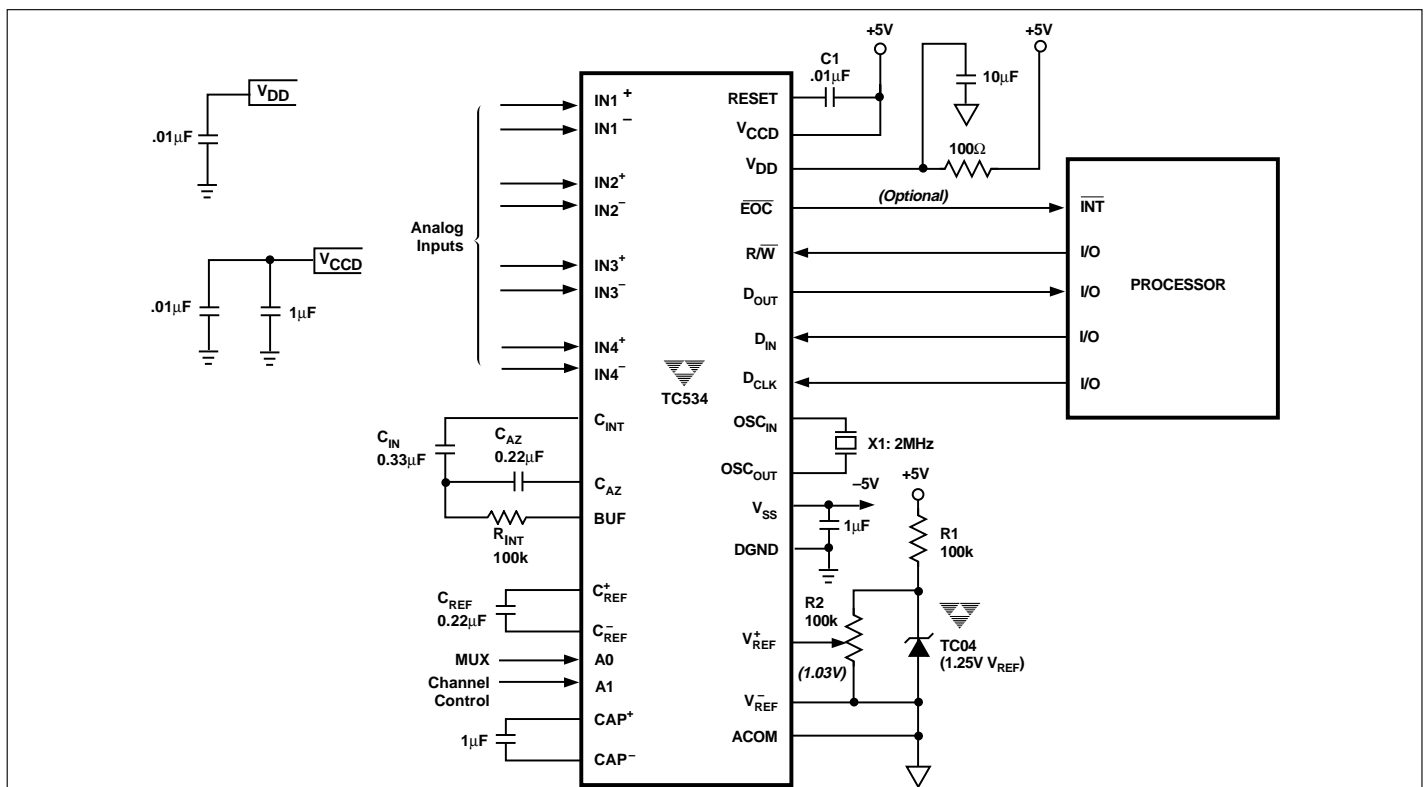

Figure 6. TC530/534 Typical Application
Figure 6 shows a typical TC534 interrupt-driven application. Timing and component values are calculated from equations and recommendations made in the Dual Slope Integrating Converter and Programming the TC530/534 sections of this document. The EOC connection to the processor INT input is for interrupt-driven applications only. (In polled systems, the EOC output is available on DOUT).
(2) Improper sequencing of the power supply inputs ( $V_{DD}$  vs.  $V_{CCD}$ ) can potentially cause an improper power-up sequence to occur in the internal state machines. It is recommended that the digital supply,  $V_{CCD}$ , be powered up first. One method of insuring the correct power-up sequence is to delay the analog supply using a series resistor and a capacitor. See Figure 6, TC530/534 Typical Application.
(3) Decoupling capacitors, preferably a higher value electrolytic or tantalum in parallel with a small ceramic or tantalum, should be used liberally. This includes bypassing the supply connections of all active components and the voltage reference.
(4) Critical components should be chosen for stability and low noise. The use of a metal-film resistor for  $R_{INT}$  and Polypropylene or Polyphenylene Sulfide (PPS) capacitors for  $C_{INT}$ ,  $C_{AZ}$ , and  $C_{REF}$  is highly recommended.
(5) The inputs and integrator section are very high impedance nodes. Leakage to or from these critical nodes can contribute measurement error. A guard-ring should be used to protect the integrator section from stray leakage.
(6) Circuit assemblies should be scrupulously clean to prevent the presence of contamination from assembly, handling, or the cleaning itself. Minutely conductive trace contaminants, easily ignored in most applications, can adversely affect the performance of high impedance circuits. The input and integrator sections should be made as compact and close to the TC53x as possible.
(7) Digital and other dynamic signal conductors should be kept as far from the TC53x's analog section as possible. The microcontroller or other host logic should be kept quiet during a measurement cycle. Background activities such as keypad scanning, display refreshing, and power switching can introduce noise.